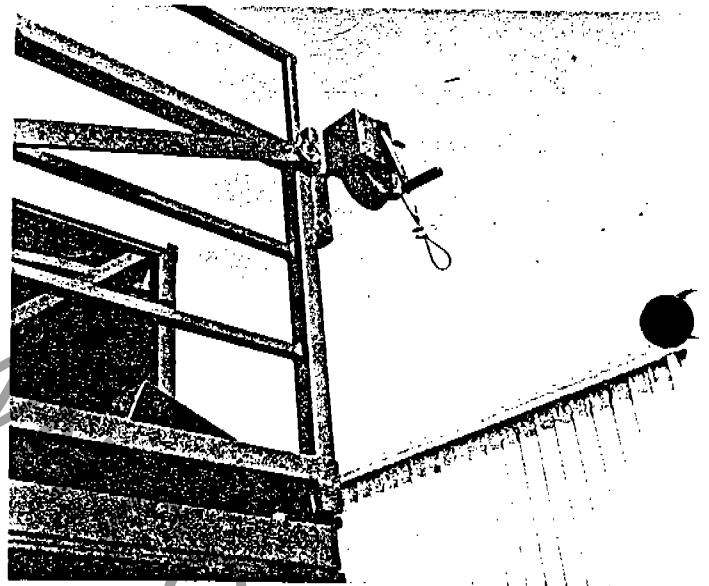

Fig. 15
- b. Install the winch to the winch-support assembly socket which is located on the top forward handrail support post. *Pin in place.* (Fig. 15)